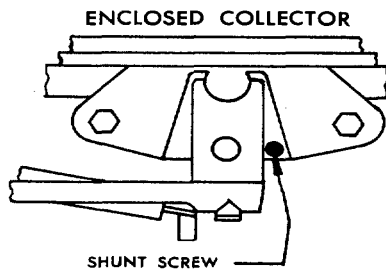

FIGURE 8.
9. Attach wires to collector's shunt screw (Fig. 8).